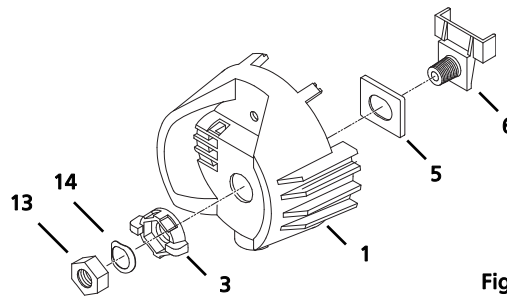

Figure 5
- 7: Install the bushing cup (5) into the housing socket casting (1) as shown in Figure 5. The cup should slide smoothly up and down, but not side to side.
- 8: Insert the threaded end of the index hub (6) through the holes in the bushing cup and the back of the housing socket casting (1).
- 9: Slide the X-Y knob (3) over the exposed index hub bolt (6), then insert the wave washer (14) on the bolt and secure with the 9/16 hex nut (13). Hand-tighten the X-Y knob (3).